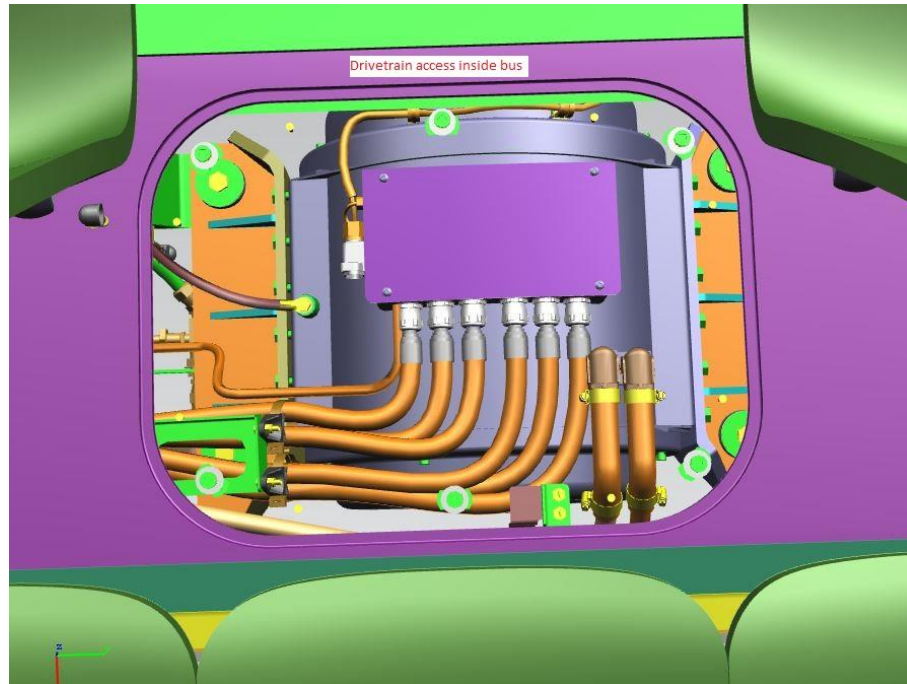

Figure 5: PEM Motor Junction Box Location
- ☞ **NOTE:** Standard grade motors will only have 3 High Voltage cables versus the 6 shown above in figure 5 above for a high-grade PEM motor